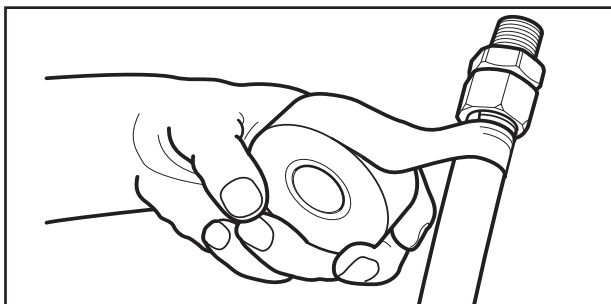

Figure: 4-5 Wrapping with self bonding silicone tape - begin on jacket.
1. When installed outdoors, the plastic jacketing shall remain intact as much as practical for the given installation. Any portions of exposed stainless steel shall be wrapped with self bonding silicone tape sealing the fitting connection to prevent later corrosive attack by acid wash or chloride based compounds. (See Figures: 4-5 and 4-6).
- When **CounterStrike**[®] is installed in a swimming pool mechanical room or exposed to a corrosive environment which may be harmful to the tubing, all exposed portions of the stainless steel tubing shall be wrapped with self-bonding tape. (See Figures: 4-5 & 4-6)